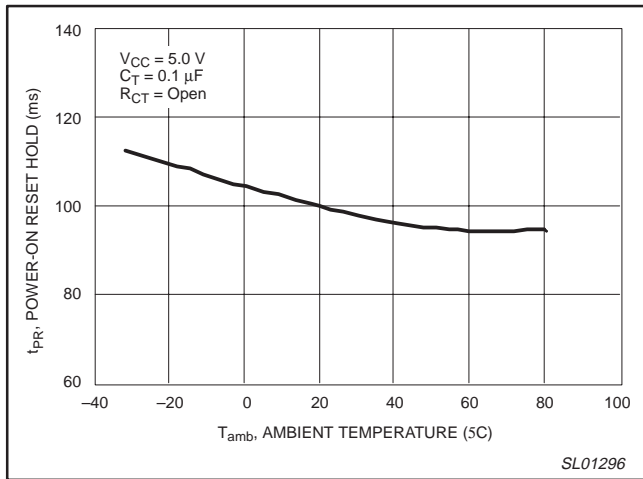
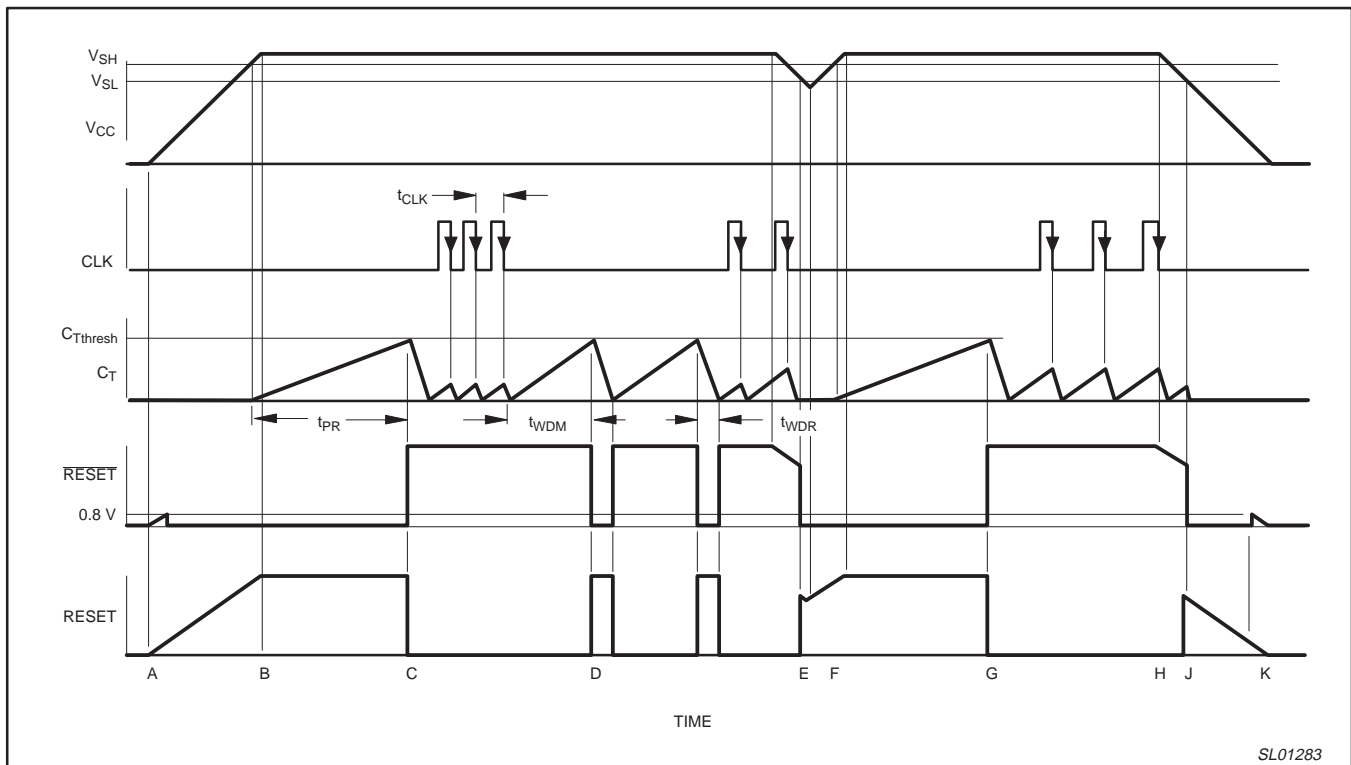
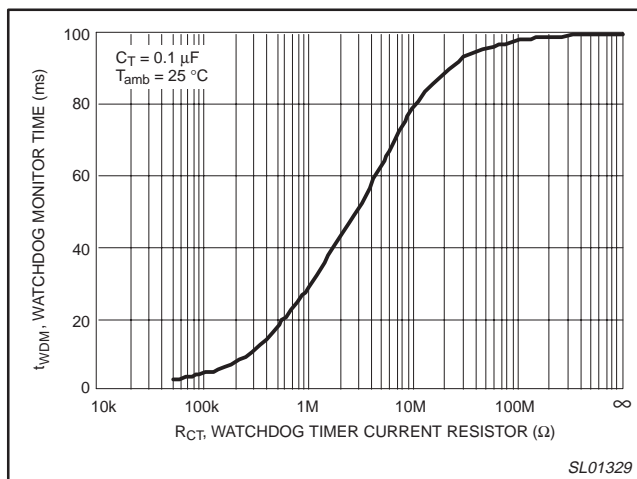

Figure 11. Power-on reset hold time vs. temperature.
Figure 20. Timing diagram.
Figure 25. Watchdog monitoring vs. pull-up resistor  $R_{CT}$ .
- 'Watchdog monitoring time' is the duration from the last pulse (negative-going edge) of the timer clear clock pulse until reset output pulse occurs (see Figure 20). A reset signal is output if a clock pulse is not input during this time. Watchdog monitoring time can be modified by changing the value of the  $R_{CT}$  pull-up resistor. Monitoring time adjustments are shown in Figure 25.
- 'Watchdog reset time' is the reset pulse width (see Figure 20).
The timing diagram shown in Figure 20 depicts the operation of the device. Letters indicate events on the TIME axis.
The values of  $R_{CT}$  and  $C_T$  affect the Watchdog monitoring time ( $t_{WDM}$ ), the Watchdog reset time ( $t_{WDR}$ ), and power-on reset delay time ( $t_{PR}$ ). See Formula 1 in the AC Electrical Characteristics and the Timing diagram shown in Figure 20 for parameter definitions. Also see Figures 11 through 18 for typical time relationship performance.
The effect of  $R_{CT}$  on the Watchdog timer monitoring time at room temperature for  $C_T = 0.1 \text{ mF}$  is shown in Figure 25.